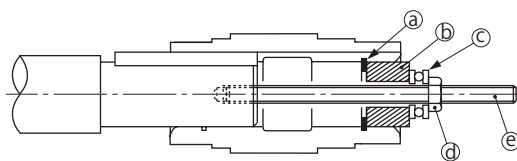

Figure 5-9 Mounting Jig
(2) Mounting on the Driven Shaft
- [2] If the fit is tight, lightly hit the end face of the hollow shaft with a wooden hammer to insert the shaft. When doing so, never hit the case or the oil seal directly. If the fit is particularly tight, use a jig such as the one shown in Figure 5-9 for a smoother insertion.